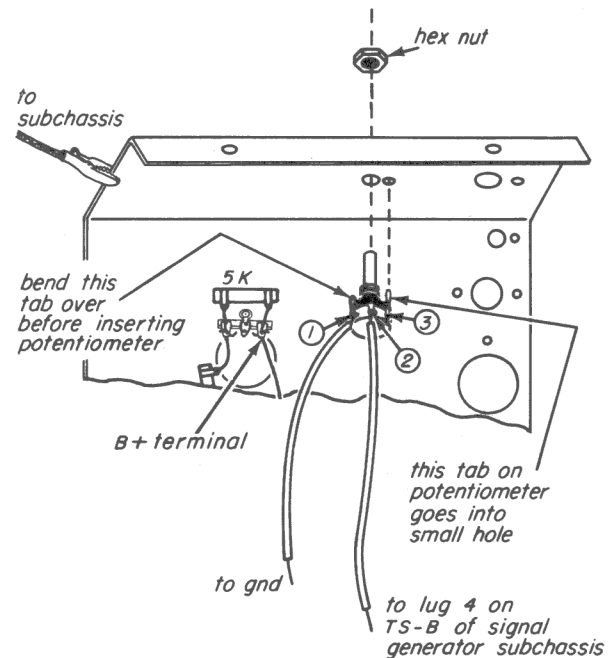

Fig. 19-6
Step 2. Insert a 500,000-ohm potentiometer (with split-knurled shaft) through the hole on the left of the front apron looking from the rear of the chassis, as shown in Fig. 19-6. The terminals should face away from the bottom of the chassis. Secure the potentiometer with a nut finger tight.
Step 3. Set up the multimeter to operate on the 10-MA DC range. Connect the positive test lead of the meter to the B+ terminal (see Fig. 19-6) of the radio receiver chassis. Connect the negative or common test lead of the meter to terminal lug 1 of TS-B on the signal generator sub-chassis.